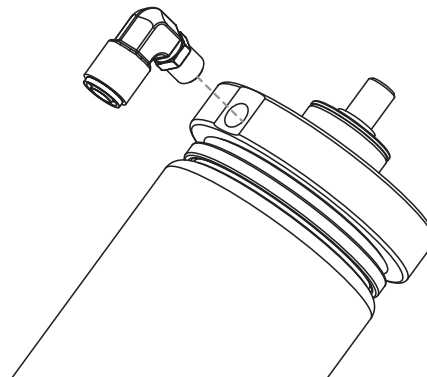

Fig. 10
1. Install the adjuster knob (P) by applying the gasket (Q) on the mating surface of the knob, and then apply the O-ring (R) around the adjuster plunger. Align the holes of the knob to the threads and bolt down with the two bolts (S).
2. Install fitting (O) into the upper end cap of the air spring with thread sealant applied to the threads of the fitting (fig. 10). Tighten finger tight and torque fitting 1 3/4 turns beyond hand tight.